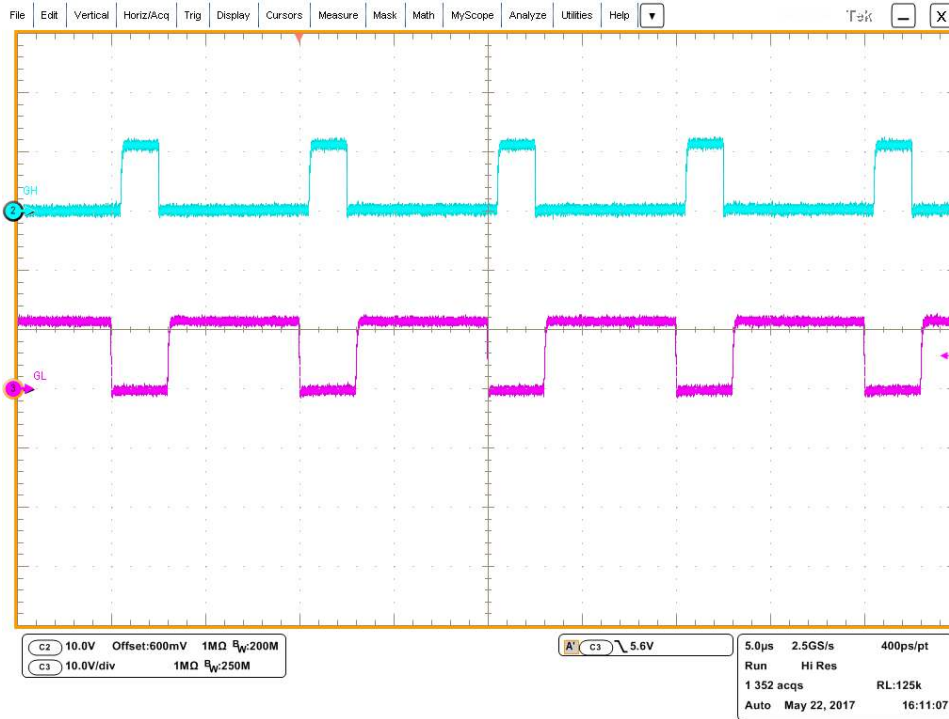
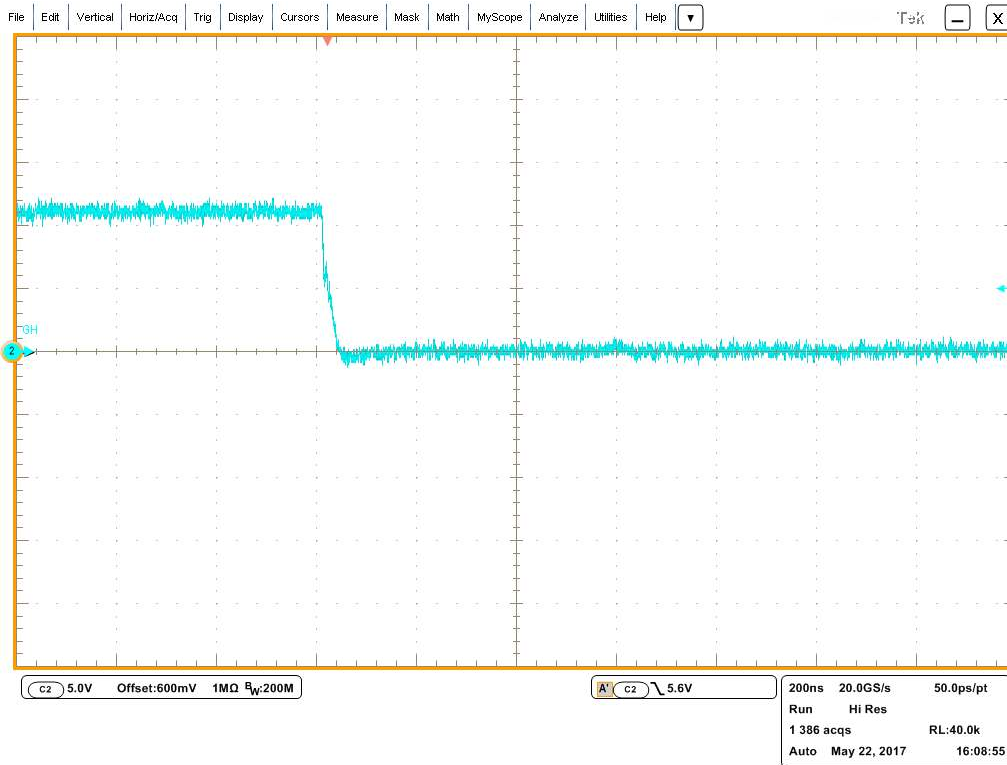

Figure 2. GH and GL, VHV = 0 V
Figure 5. GH Fall Time
- (a) A stable pulse output on channel-2 and channel-3 on the oscilloscope, refer to Figure 2
The waveforms in Figure 2 through Figure 5 were observed with the setup explained in Section 4.